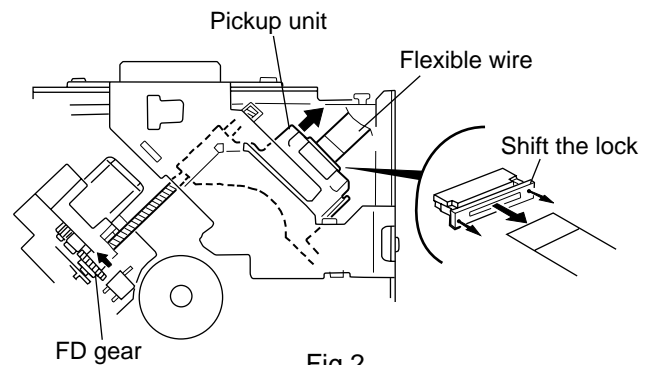

Fig.2
■ Removing the front chassis (See Fig.2)
(Refer to Fig.2)